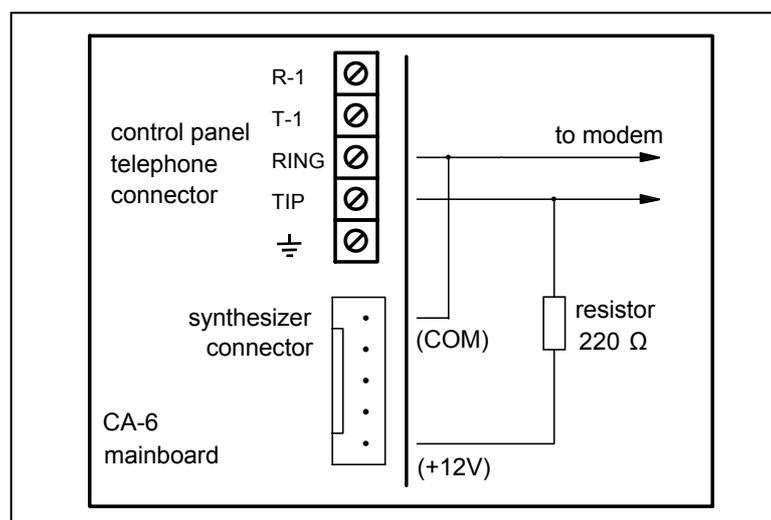

Fig. 12. Connecting control panel to modem for local mode programming
Interaction with the computer by means of a **modem** can be effected in two ways: in a *remote mode* (through the telephone line) or in a *local mode*. The local mode can be used after connecting the modem directly to the TIP and RING telephone terminals on the control panel (see: Fig. 12).
- connect the computer modem to the "TIP" and „RING" control panel terminals (**the telephone line must be disconnected!** Connections of the "T-1" and „R-1" terminals are irrelevant), and make sure that the polarity of the telephone signal inputs arrangement in the control panel is as shown at the Fig. 12;